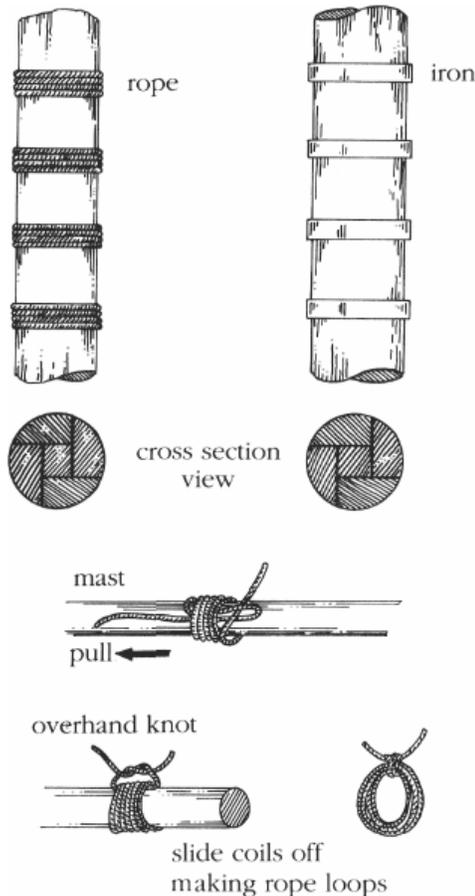

FIGURE 35. *Lower mast sections.*
**THE LOWER MAST.** The lower mast is the heaviest, and in most cases it was built by *woolding* it — lashing together longitudinal sections with either rope or iron hoops (depending on the era in which the ship was built), as you can see in Figure 35. Of course, the masts on your model need not be made in sections like
The bottom part of Figure 35 shows the best way I know to make rope loops: You can use the loops as wooldings on the mast or — with variations — loops